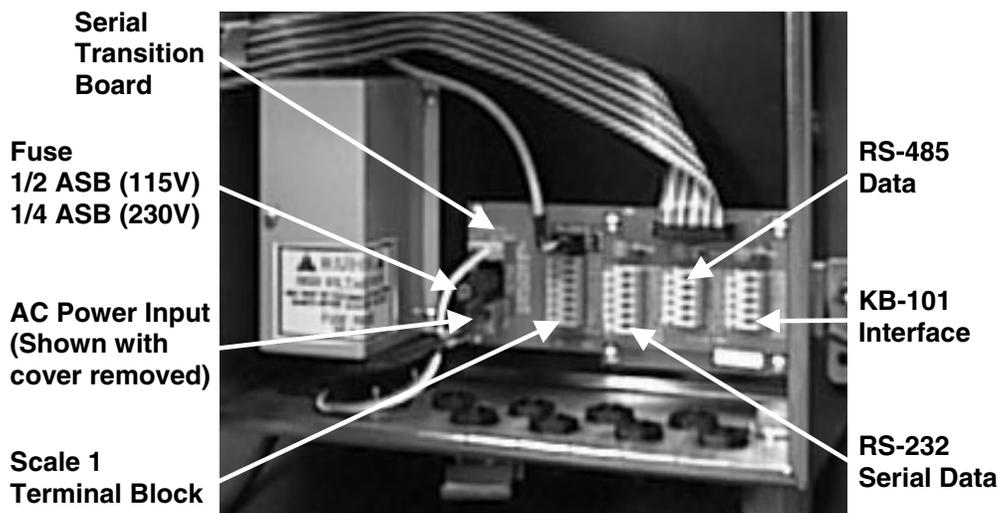

Figure No. 17
3. Connect each of the wires to the Scale 1 terminal block for scale input 1 referring to the labels on the circuit board for terminal connections. Refer to Figure No. 17 for terminal block locations.
4. Connect each of the wires to the RS-232 Serial Data terminal block referring to the labels on the circuit board for terminal connections. Refer to Figure No. 17 for terminal block locations.
4. Connect each of the wires to the RS-485 Data terminal block referring to the labels on the circuit board for terminal connections. Refer to Figure No. 17 for terminal block locations.
4. Connect each of the wires to the KB-101 interface terminal block referring to the labels on the circuit board for terminal connections. Refer to Figure No. 17 for terminal block locations.
4. Connect each of the wires to the AC power terminal block (P2) referring to the labels on the circuit board for terminal connections. Refer to Figure No. 17 for terminal block locations.
6. Replace the AC power connection cover and re-installed the (2) Phillips screws removed.